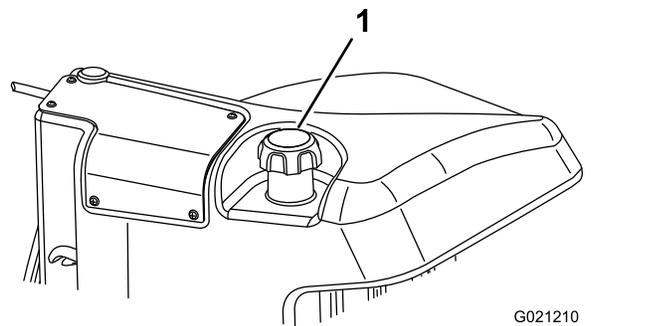

Figure 45
3. Remove the cap from the fuel tank (Figure 45).